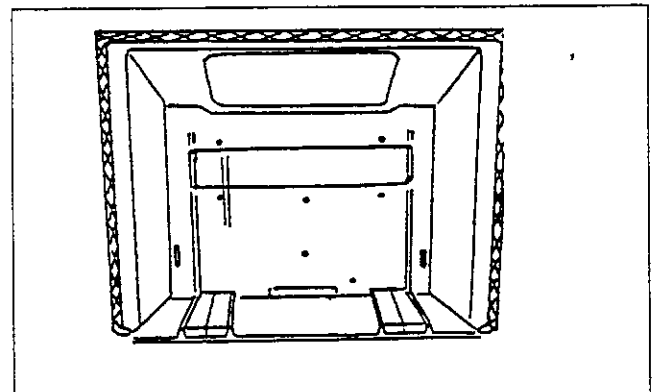

Figure 11. Back (inside view)
13. Apply cement to the grooves in the back. **Figure 11**. Put the stove back into position. It will be easiest to have a helper hold it in place temporarily. Install the stove top, which captures the top edge of the back, and secure it with washers and hex nuts on the two threaded stems at the rear corners. Secure the front of the stove top to the stove front with one Phillips-head bolt, 1/4-20 x 1", passing downward through the notch where the griddle handle fits.